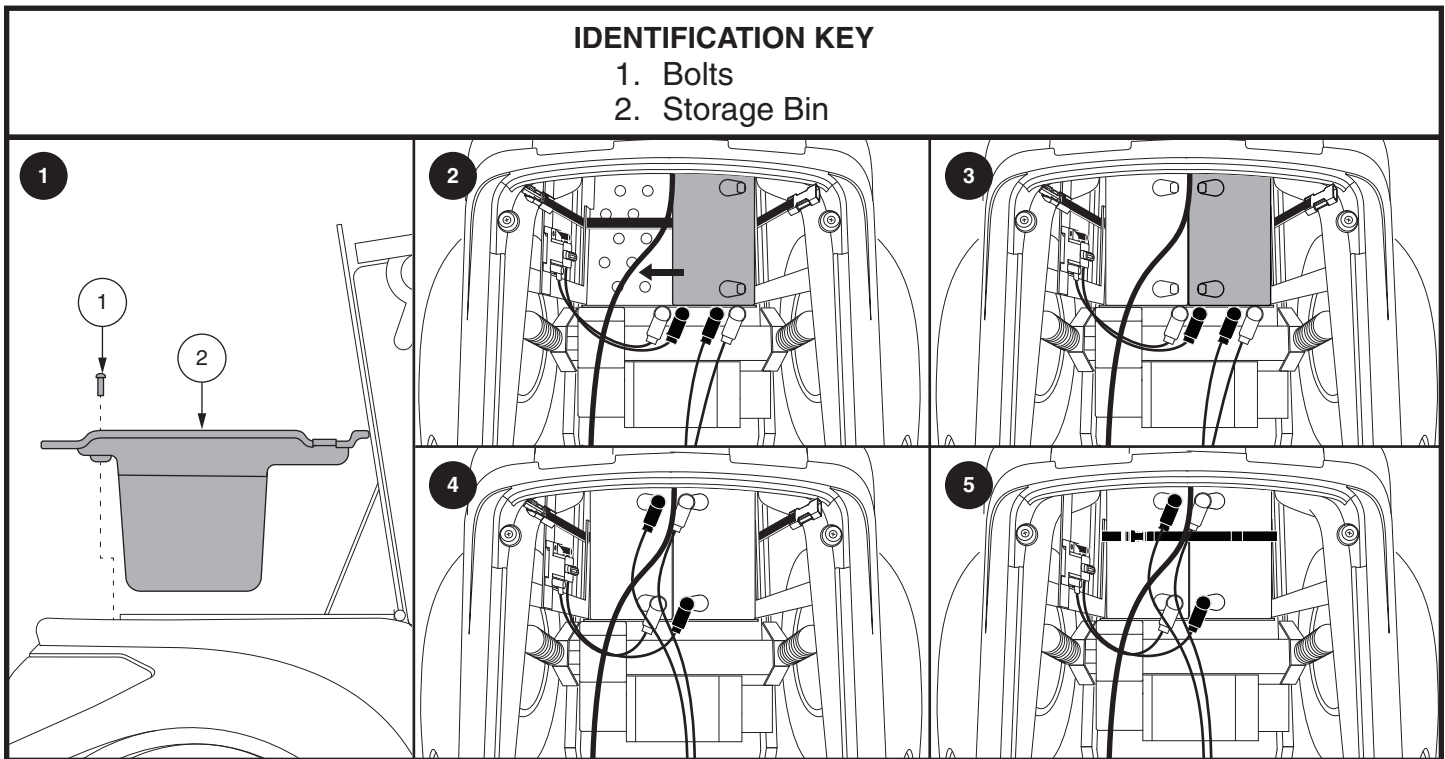

Figure 10. Battery Changing
2. Remove the two bolts from the storage bin. Lift the storage bin out of the rear storage compartment. **See figure 10.**
6. Place the new batteries into the battery wells, beginning with the left battery. Insert the left battery on the right side, and slide it into the left position. Then, insert the right battery. **See figure 10.**